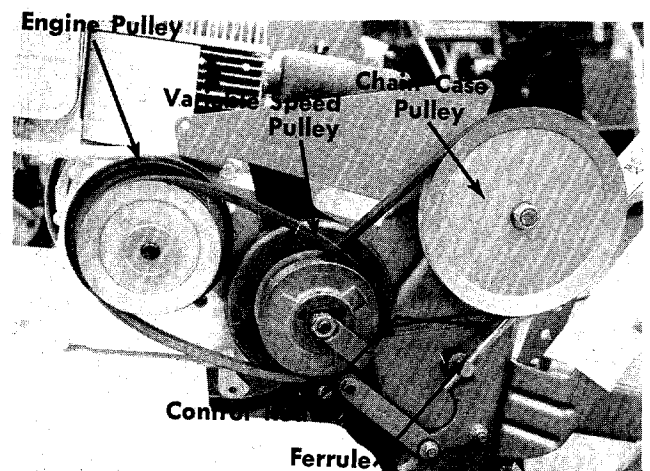

FIGURE 19. DRIVE SYSTEM
The inside belt should move to the outside edge of the variable speed pulley so the top of the belt is almost flush with the pulley. See figure 19.
- Step 1. Remove the belt cover so the belts are exposed as shown in figure 19.
- Step 5. Slide the center section of the variable speed pulley towards the engine. See figure 19.